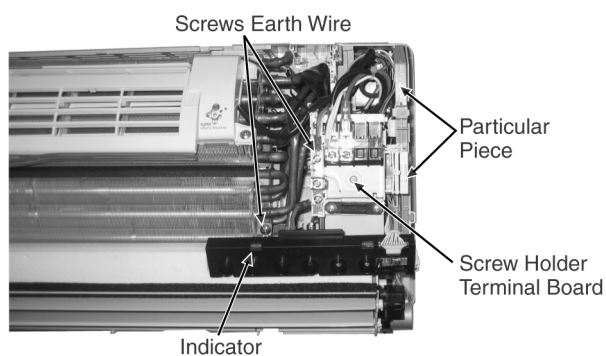

Fig. 3
- Release the 2 Particular Piece. (Fig. 3)
- Release the Indicator. (Fig. 3)
- Release the 2 screws for the earth wire. (Fig. 3)
- Release the screw Holder Terminal Board. (Fig. 3)